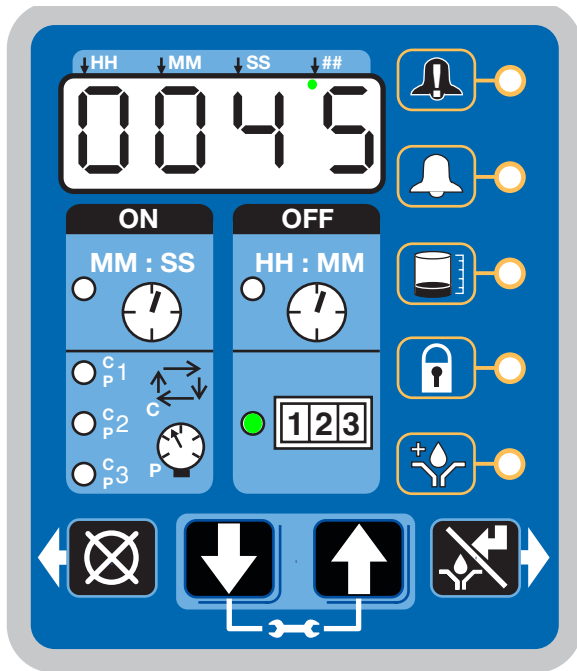

FIG. 24
- The LED next to 1-2-3 illuminates (FIG. 24).
The example shown in FIG. 24 shows the remaining number of machine counts is 0045.
- If Machine Count has been set the LED next to 1-2-3 illuminates (FIG. 24, page 61).